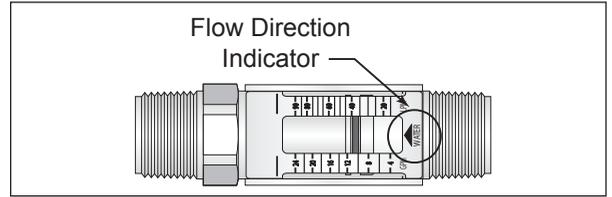

Figure 3. Flow Direction Indicator
These meters only accept flow in one direction. Make sure to align the Flow Arrow, located on the bottom of the meter's flow scale, in the same direction as the anticipated line flow. See **Figure 3**.
3. Thread the flow meter and coupling onto the inlet pipe and hand tighten. Make sure the flow direction arrow on the flow meter corresponds with the system flow direction. See **Figure 3**.
6. Make sure the flow direction arrow on the flow meter corresponds with the system flow direction. See **Figure 3** on page 4. Lubricate the union O-ring and connect the union together.
7. Place the flow meter in between the two installed brass fittings. Make sure the flow direction arrow on the flow meter corresponds with the system flow direction. See **Figure 3** on page 4. Thread the two brass hex couplers into the flow meter body.
8. Place flow meter between the two installed fittings. Make sure the flow direction arrow on the flow meter corresponds with the system flow direction. See **Figure 3** on page 4. Thread the two hex couplers onto the flow meter body.
2. Thread the inlet of the flow meter onto the appropriate pipe connection. Make sure the flow direction arrow on the flow meter corresponds with the system flow direction. See **Figure 3** on page 4.